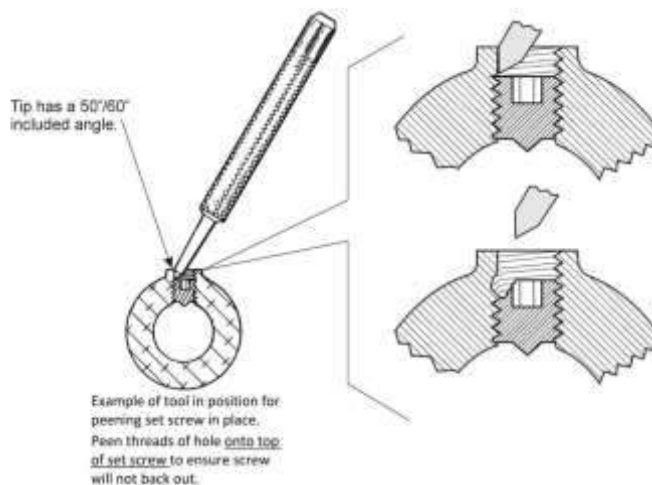

Figure 80
NOTICE: To ensure that there is adequate material in the set screw hole to peen on top of the screw, use a new set screw that is shorter than the one previously removed. A smaller diameter center punch could be necessary. Refer to Figure 80.
- (3) Torque the set screw 32 to 38 in.-lb. (3.6 to 4.3 Nm).
- (4) Use a smaller center punch (peening tool) with a 3/32-inch (2.38 mm) diameter at an approximate 50°/60° angle to peen the threads of the hole at the top of the taper above the set screw to prevent the set screw (as shown in Figure 80) from backing out.